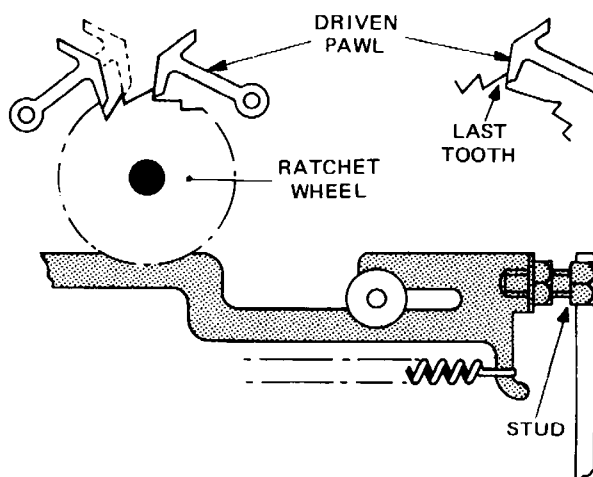

Fig. 4.73 MOTOR CONTROL SWITCH – SWITCH-OFF LINK
- 82.1 Feed the ratchet wheel until the driven pawl is against the face of the last or the last-but-one tooth, as shown in the inset of Fig. 4.73, and check that as this condition is attained the motor switch is heard to operate.
- 83.5 If checks 83.3 and 83.4 are not satisfied, check that there is only one tooth gap between the pawls, as shown in Fig. 4.73.